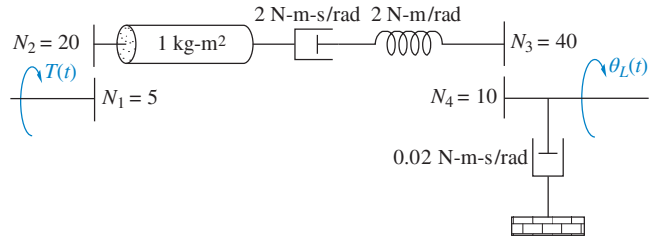

FIGURE P2.24
39. For the rotational system shown in Figure P2.24, find the transfer function,  $G(s) = \theta_L(s)/T(s)$ . [Section: 2.7]